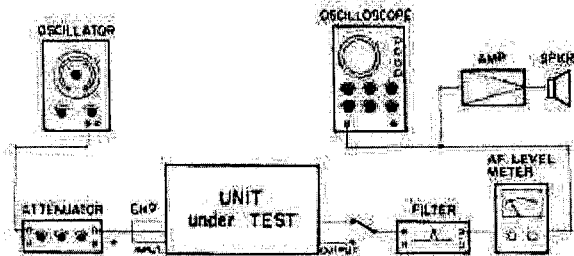

Fig. 9-7-15. Crosstalk Measurement Set-Up
1. Connect test equipment as shown in Fig. 9-7-15.